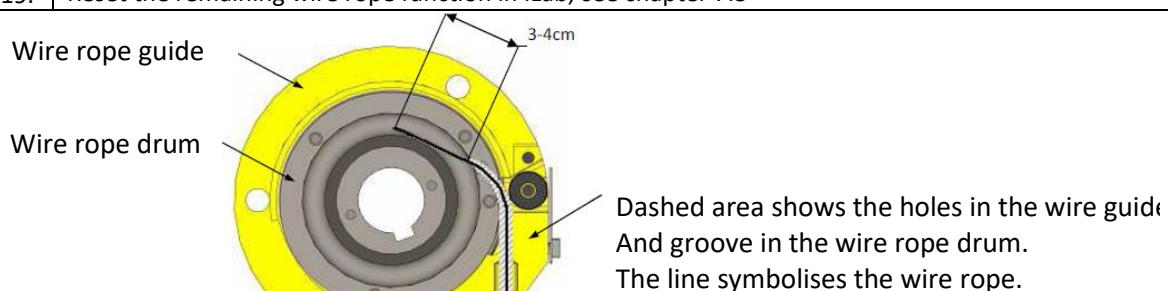

Bild 3
1.	Position the wire rope guide so that the hole for the wire rope aligns with the slot where the wire rope is attached to the drum, see the line in figure 3 below.
6.	Check that approximately 3-4 cm of the wire rope protrudes beyond the slot, towards the centre of the wire rope drum. See the line in figure 3.